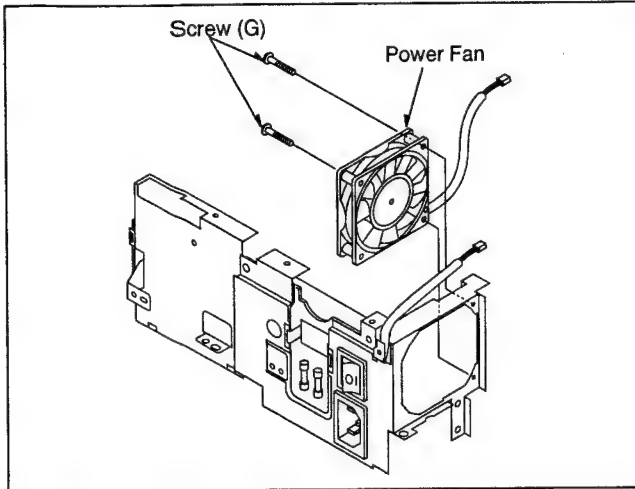

Fig. P12
1. Remove 2 screws (G) to remove the Power Fan as shown in Fig. P12.